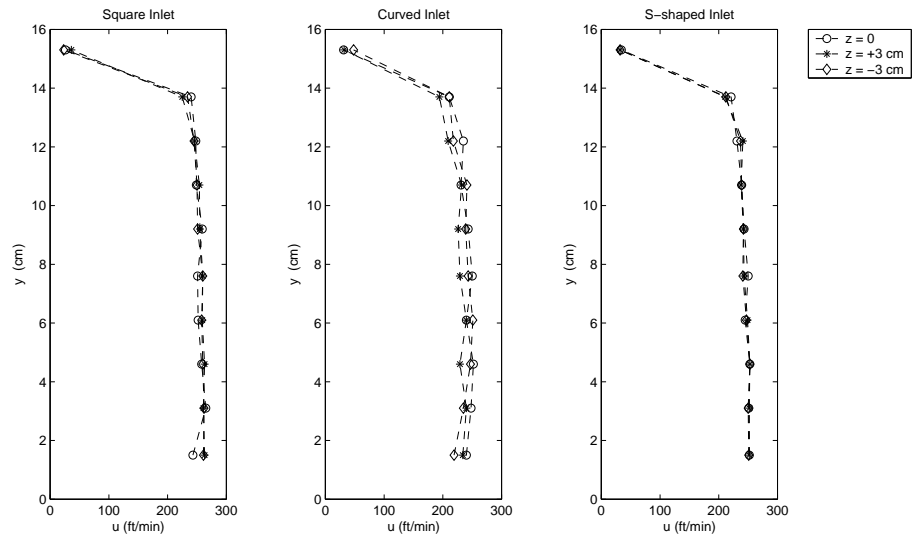

Figure 5: Comparison of velocity profiles at different z locations for $V_{\text{nom}} = 250$ ft/min
2. Create two plots of the velocity profile data: one for each inlet design. Put velocity on the horizontal axis and y on the vertical axis. For each inlet, put the velocity profiles for the three z locations on the same plot. The result should be similar to those in Figure 5.